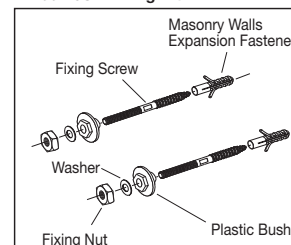

Fig. 2
- 3- Insert Expansion Fasteners into the drilled holes in masonry wall. The Fixing Screws should be screwed into the wall using the flat section of the Fixing Screw with a spanner as shown in **Fig. 2**. Allow 35 mm of thread to protrude from the finished wall.